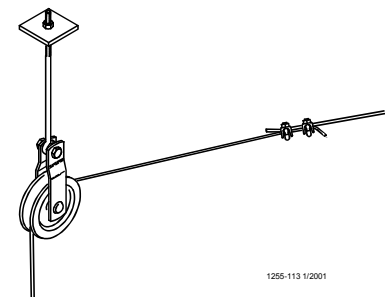
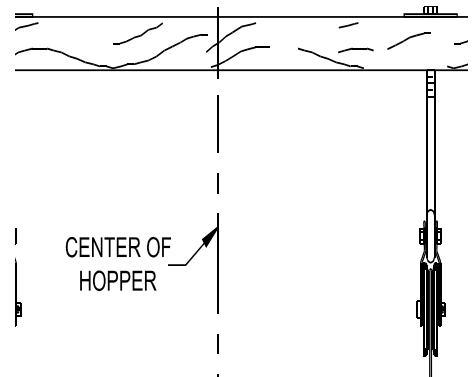

Figure 8. Steel Hopper Suspension
Figure 9. Plastic Hopper Suspension
•Feed Hopper Locations: **When steel hoppers with center suspension are used, see figure 8, the feeder line must be supported within 1' [30 cm] of the feed hopper. When plastic hoppers are installed only 2 point suspension can be used, see figure 9, this does not require additional supports. See page 16 for plastic hopper suspension.** This is in addition to the required Feeder Hopper suspension. After determining the type of suspension system required, decide where the Feeder Line is to be installed. Mark a straight line on the ceiling or rafters the full length of the Feeder Line. Use a string, chalk line, or the winch cable, temporarily attached with staples, to mark the line. Center the line directly over where the Feeder Line is to be installed.